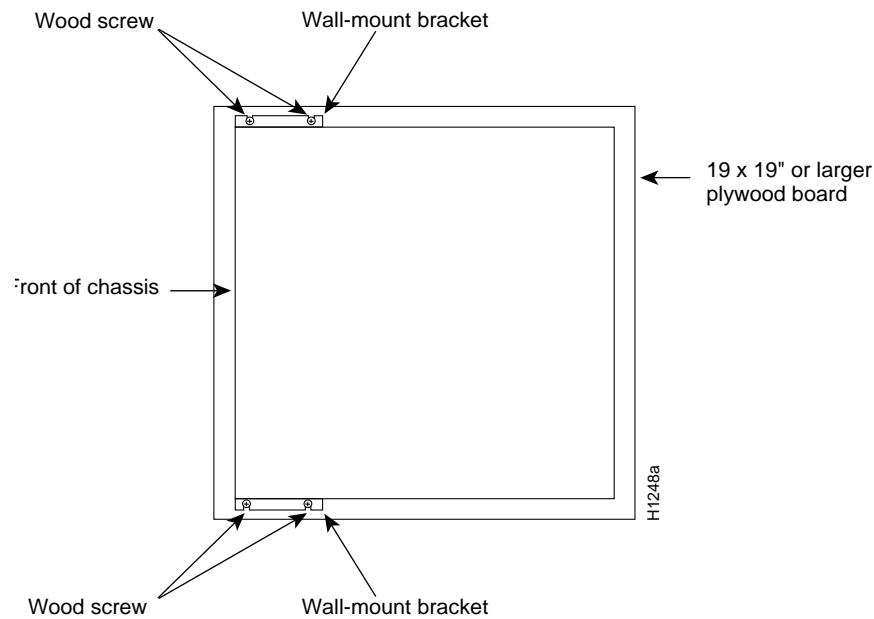

Figure 12 Wall-Mounted Cisco 4000 Chassis
- Step 2:** Choose the wall on which you will mount the Cisco 4000 chassis. When choosing a location, consider cable lengths and limitations, and wall structure (see Figure 12).